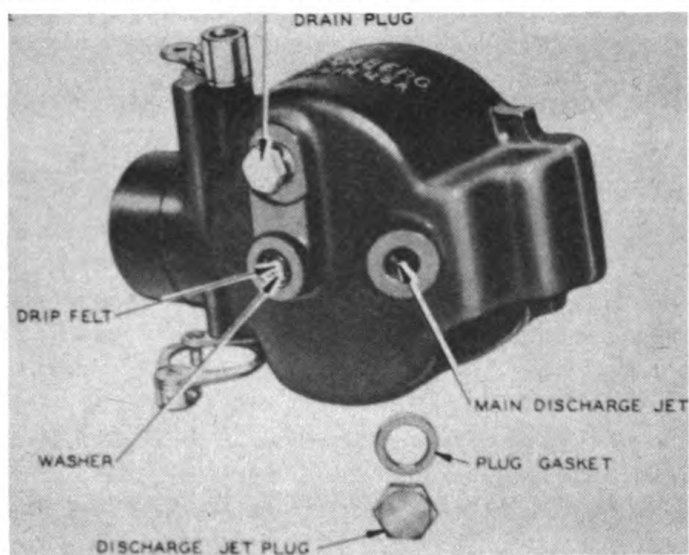

Fig. 100
6. Install main discharge jet with fibre gasket on top shoulder. Install main discharge jet plug and gasket securely. Install drain plug. (Fig. 100).